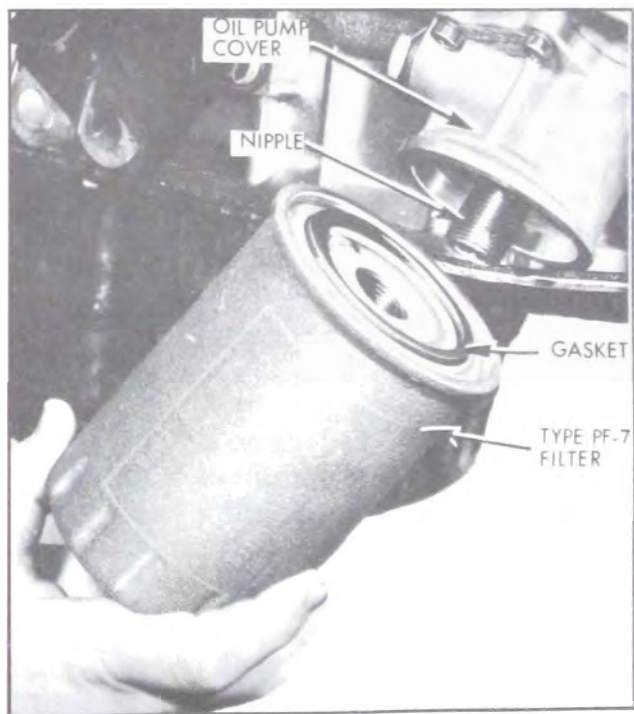

Figure 1-2—Oil Filter Installation
To change, screw filter off the filter base and discard. Wipe the gasket area of the base clean and install a new gasket in the groove of a new AC-type PF-7 filter or equivalent. Lubricate the gasket and screw the filter on the nipple until the gasket just touches the base; tighten filter 2/3 turn more. Start engine. Do not accelerate engine beyond the normal idle until oil pressure is indicated. Check the filter area for leaks after the engine has run for five (5) minutes. See Figure 1-2.